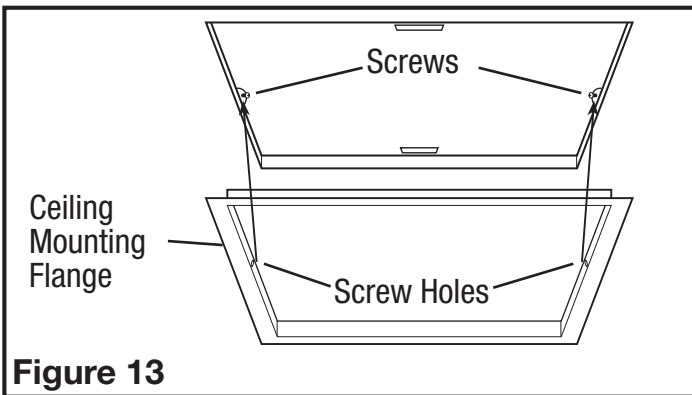

Figure 13
4. Install the ceiling mounting flange to cover any gaps which exist between the housing and the finished ceiling. Put sealant (not provided) on inside edge of the ceiling mounting flange to ensure that the flange is sealed to the ceiling. Line up the screw holes in the ceiling mounting flange with the screw holes on the inside of the housing and press flange in place so it is tight against the ceiling. Reinstall ceiling flange mounting screws inside the housing (Figure 13).